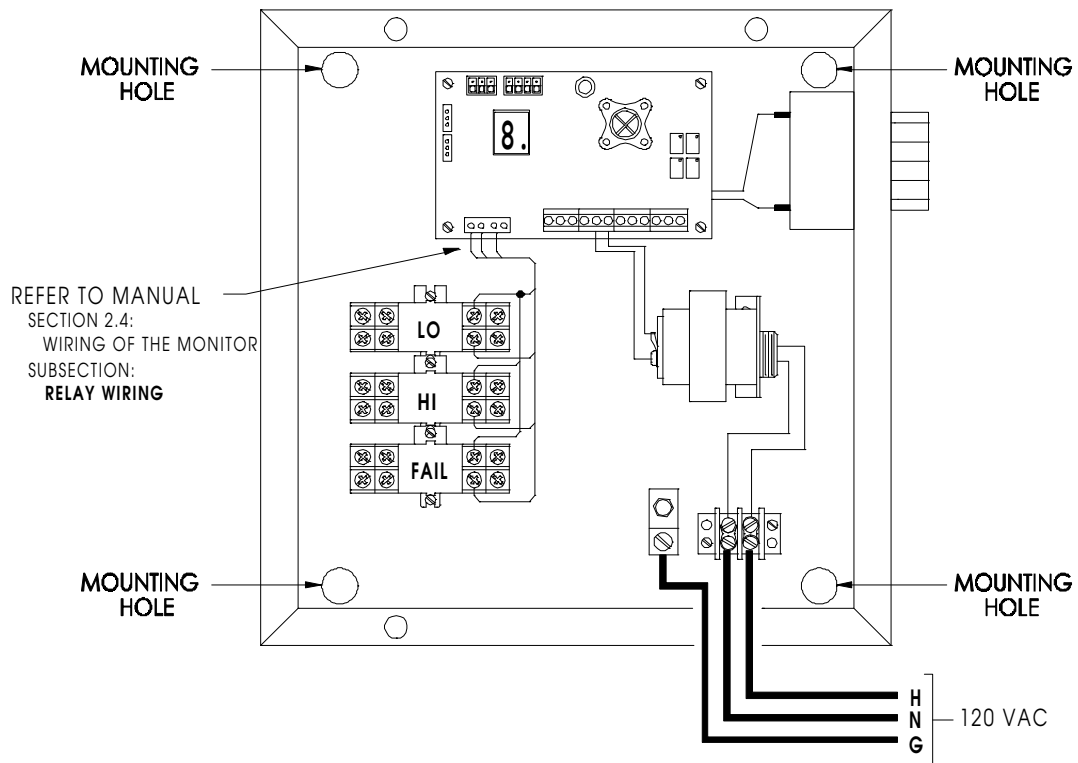

FIGURE 2-1: Locations of mounting holes for installation, and power supply connections.
Care should be taken to securely fasten the AMC-1032 monitor unit on a solid, non-vibrating surface or structure at 2 feet 11 inches to 3 feet 11 inches from floor. Install the unit in an area where the local concentration of gas is unaffected by the presence of ventilation systems and away from sources of interference gases. Mount the monitor in a NON-HAZARDOUS area where the unit can be observed periodically. See Figure 2-1 for mounting hole locations.
**POWER SUPPLY:** The monitor operates on 120 VAC, 60 Hz. A Class II step down transformer runs the internal circuitry at low voltages. The power supply connections are made at the power terminal block located inside the monitor (See FIGURE 2-1).